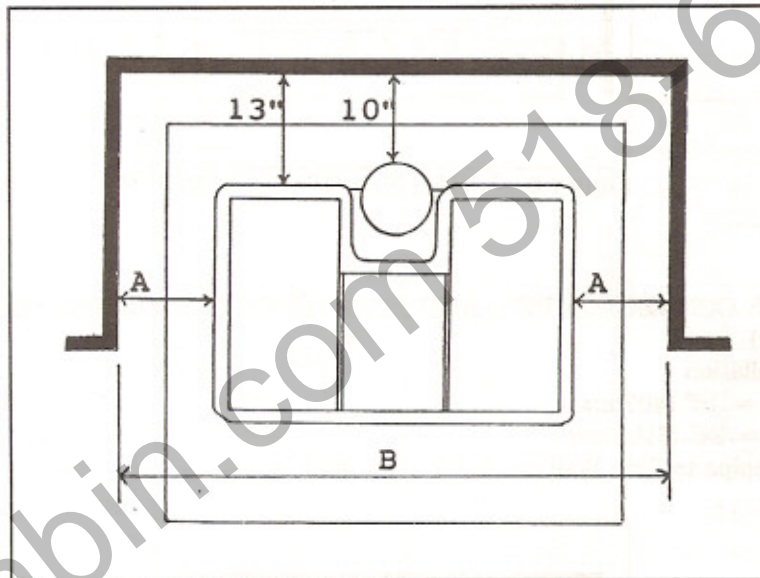

Figure 7 - PARALLEL INSTALLATION
*REFER TO FIGURE 7: "A" can be a minimum of 22 3/4" (578 mm) on one side or the other. However, "B" must **never** be less than 95" (2413 mm).